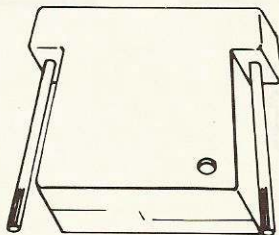

Fig. 7 Terminator plug
| Figure 7 | Terminator Plug 1 - 6 |
- * The terminator plug, depicted Figure 7.